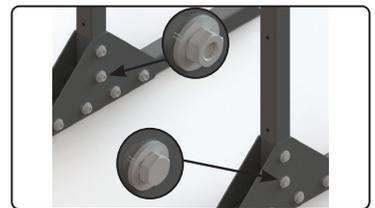

Figure 2 - Installed Base Support
5. Use a 17mm Ratchet/Socket Driver, wrench, and the twelve(12) M10 Hex Bolts with included M10 Washers and M10 Hex Nuts to mount two(2) Base Supports to each Base Foot and Vertical Post assembly. See Figure 2. **NOTE:** Ensure a M10 Washer is installed between the M10
- Use a 17mm Ratchet/Socket Driver, wrench, and the twelve(12) M10 Hex Bolts with included M10 Washers and M10 Hex Nuts to mount two(2) Base Supports to each Base Foot and Vertical Post assembly. See Figure 2. NOTE: Ensure a washer is installed between the bolt and support and between the nut and support. It is considered best practice to install the bolts from the outside in, with the nuts on the interior of the rack.
- Remove the two(2) M10 Hex Nuts and M10 Washers attaching the Upper Beam to the installed rack. Then use a 17mm Ratchet or Socket Driver and wrench and the those two(2) M10 Hex Nuts and M10 Washers and two(2) M10 Hex Bolts with included washers and nuts from the Extension Rack kit to mount the beam marked "UPPER" to the Extension Rack and installed rack base and post assembly.
- Remove the two(2) M10 Hex Nuts and M10 Washers attaching the Lower Beam to the installed rack. Remove the label that corresponds to the appliance that will be mounted from the Extension Rack post assembly. Then use a 17mm Ratchet or Socket Driver and wrench and the two(2) removed M10 Hex Nuts and M10 Washers and two(2) M10 Hex Bolts with included M10 Washers and M10 Nuts from the Extension Rack kit to mount the beam marked "LOWER" to the Extension Rack and installed rack base and post assembly. NOTE: Ensure the lower beam is mounted in the proper location for the appliance to be installed to the rack. Failure to do so will result in wasted time.